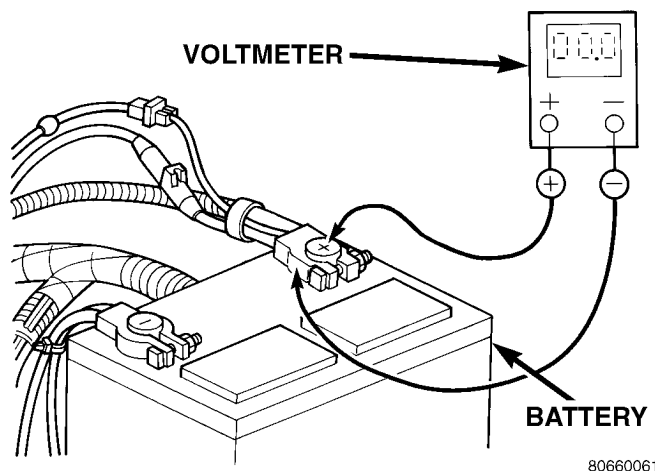

Fig. 11 Test Battery Positive Connection Resistance - Typical
(2) Connect the positive lead of the voltmeter to the battery positive terminal post. Connect the negative lead of the voltmeter to the battery positive cable clamp (Fig. 11). Rotate and hold the ignition switch in the Start position. Observe the voltmeter. If voltage is detected, correct the poor contact between the cable clamp and the terminal post.